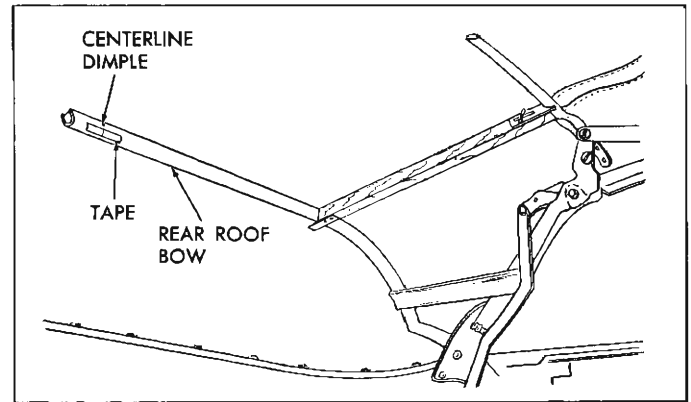

Fig. 71—Marking Rear Roof Bow
27. Along forward surface of rear roof bow install a 1" piece of tape at centerline dimple of rear roof bow. Using a pencil, mark centerline of rear bow on tape (fig. 71).
- NOTE:** The deck seam mark will vary slightly ( $\pm 1/4"$ ) depending upon position of rear roof bow. Also check centerline mark on inner lining of top material. Mark should correspond to centerline mark on rear roof bow (see Figure 71).